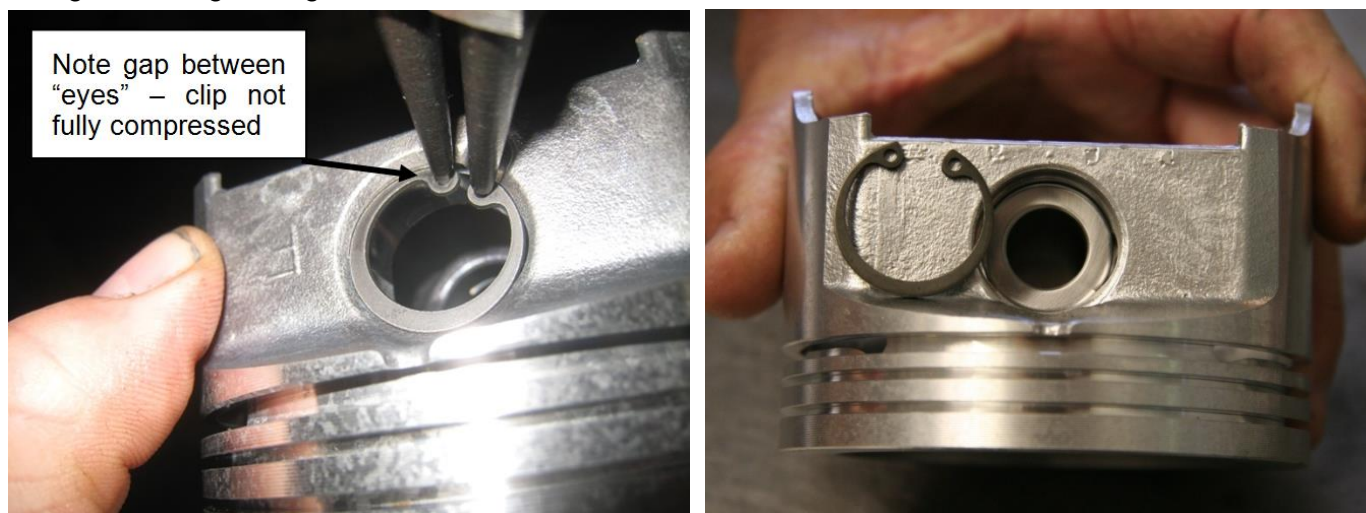
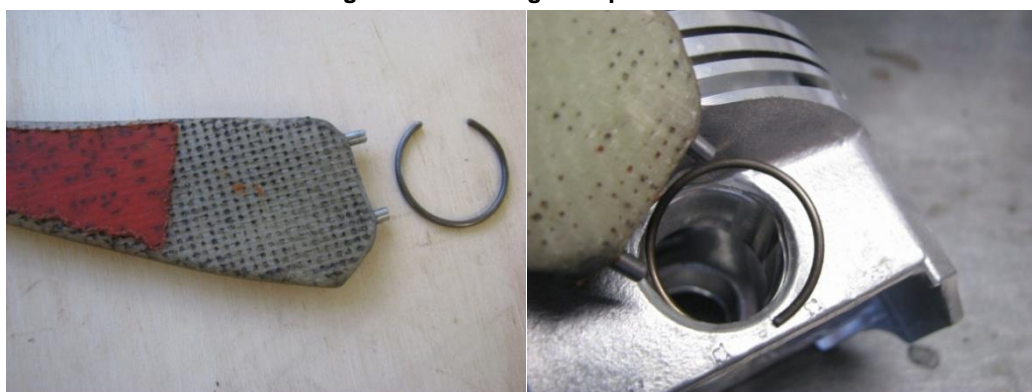

Figure 135 – Fitting Circlip to Piston
Figure 136 – Fitting Wire-Type Piston Circlips
- Many engines use a wire circlip in place of the part shown in Figure 135. Installation of that type of clip is shown in Figure 136.
- Both 25mm and 23mm internal circlips have been used in Jabiru engines, as shown in Figure 135.